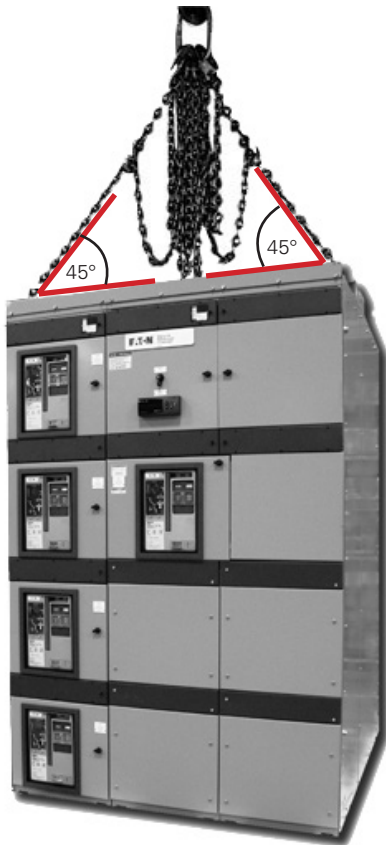

Figure 4. Lifting sling
**Indoor assemblies:** For ease of handling by crane, each indoor shipping group is equipped with a lifting plate that extends the length of the shipping group. The lifting plate is designed and placed such that a spreader bar is not required between the lifting cables/chains (Figure 4). The acute angle between the lifting cables/chains and the horizontal top of the gear, must never be less than 45°. Spreader bars can, however, be used if the overhead space is limited for crane use.